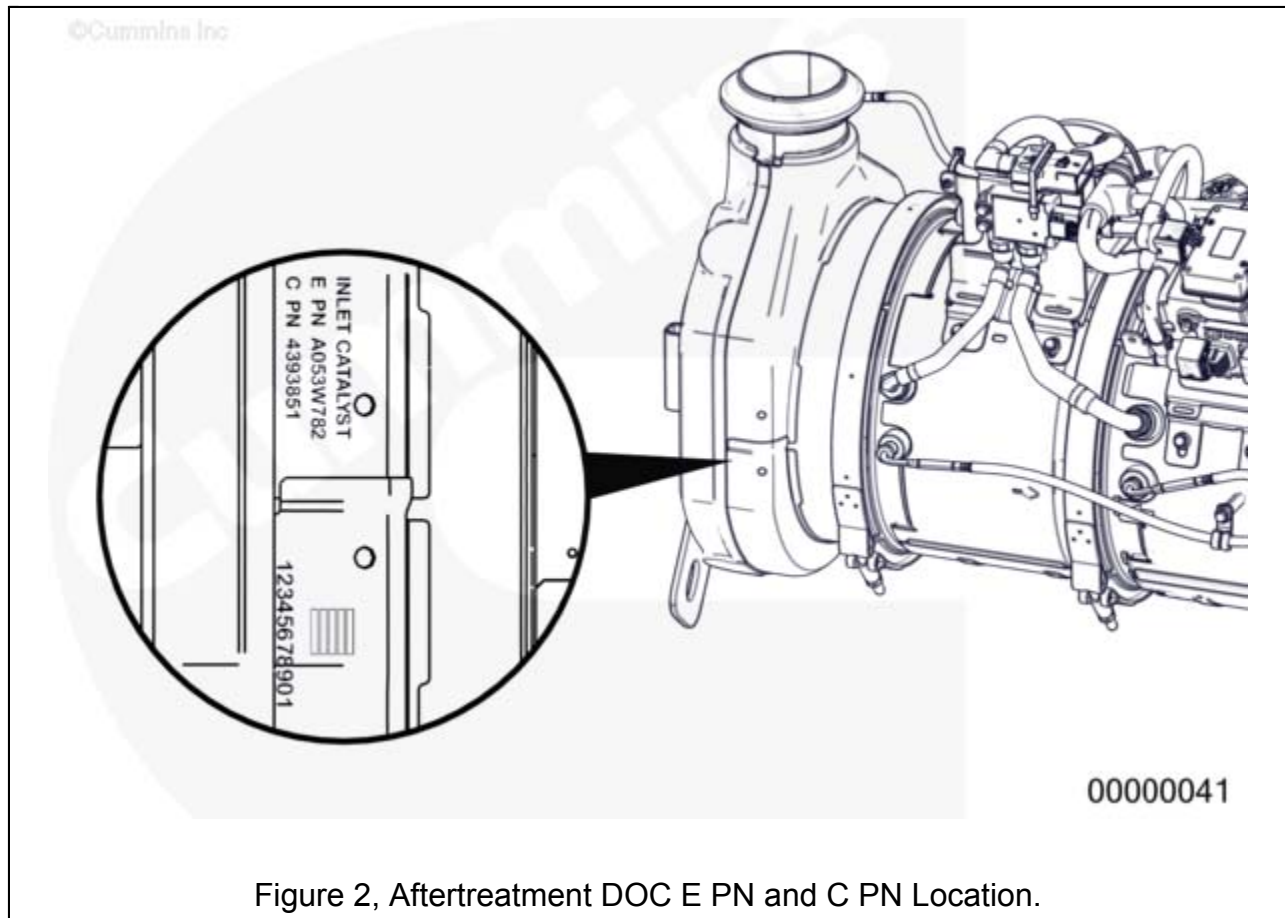

Figure 2, Aftertreatment DOC E PN and C PN Location.
- Figure 2 below displays location of E PN and C PN on aftertreatment DOC.
2017-8-28	Added Part Identification section. Updated Tables 1, 2, 3, and 4 with clamp part number. Added Figure 1 and Figure 2.